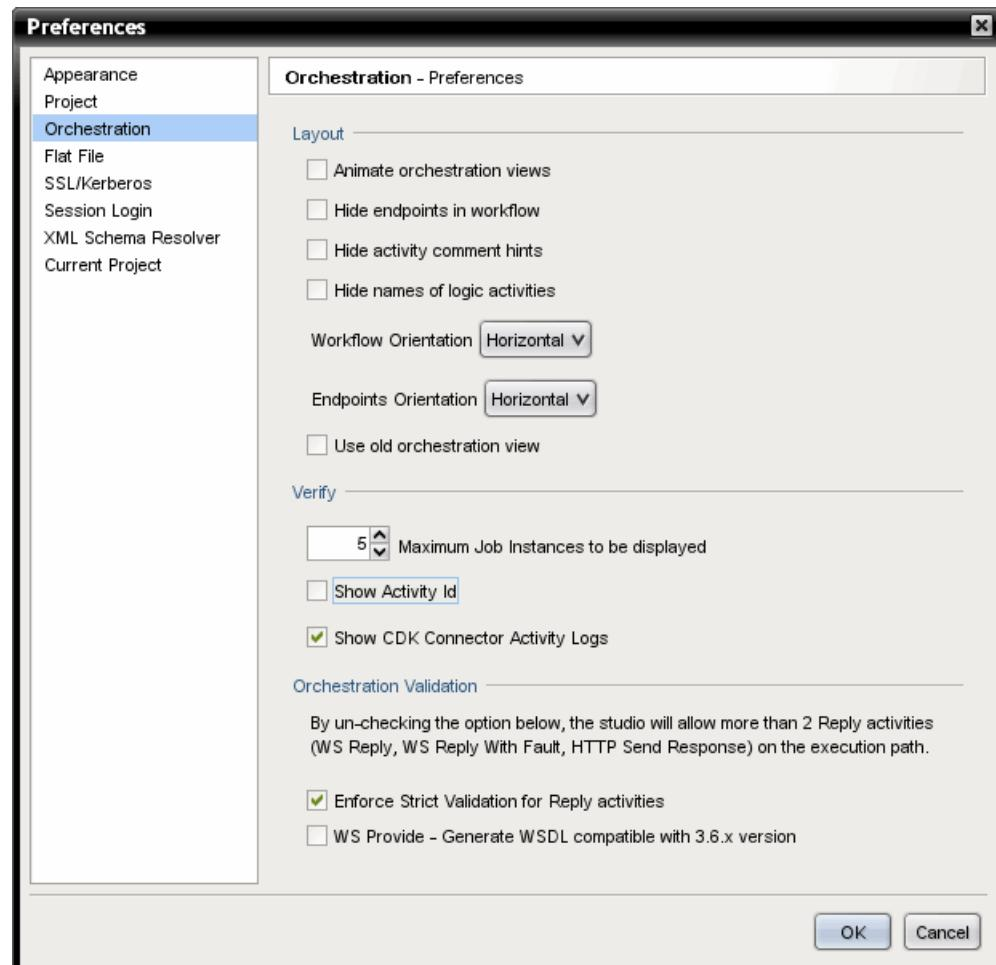

Figure 8-18 Enable the CDK Activity execution log
Enable the display of all processes of the activity by selecting **Show CDK Connector Activity Logs** in the Orchestrations tab of Studio preferences, as shown in Figure 8-18. To open the preferences select **Edit → Preferences → Orchestration**.
8. Enable the CDK Activity execution log, as shown in Figure 8-18 on page 343.